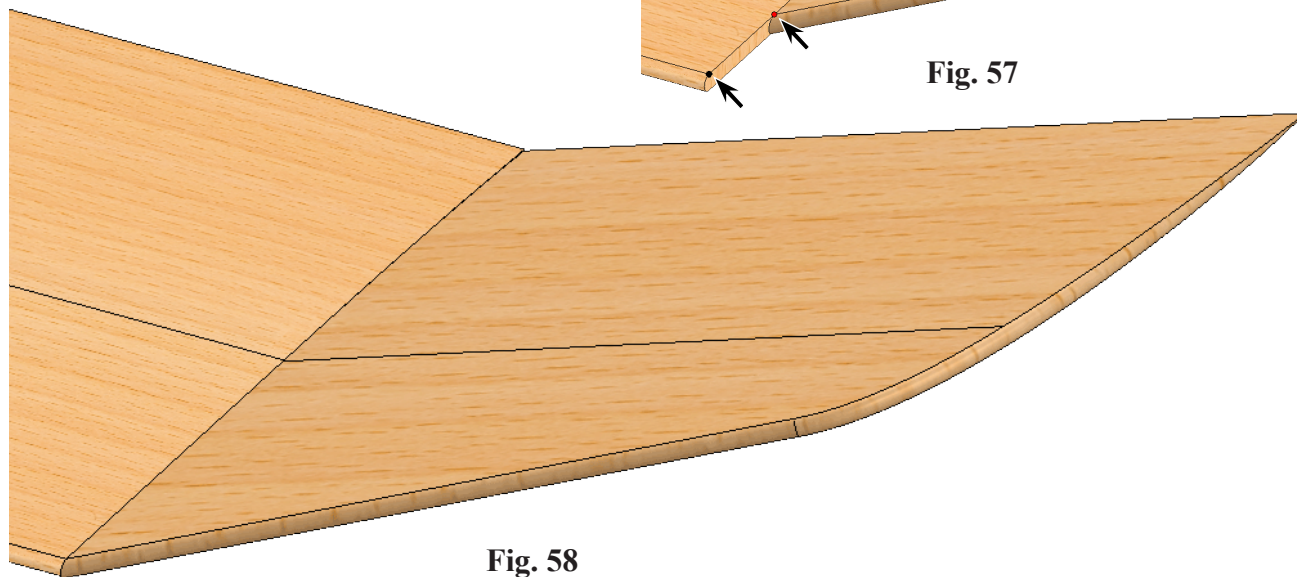

Fig. 58
Step 11. Click Add/Finish Mate  to add a **Coincident** mate, **Fig. 58**.